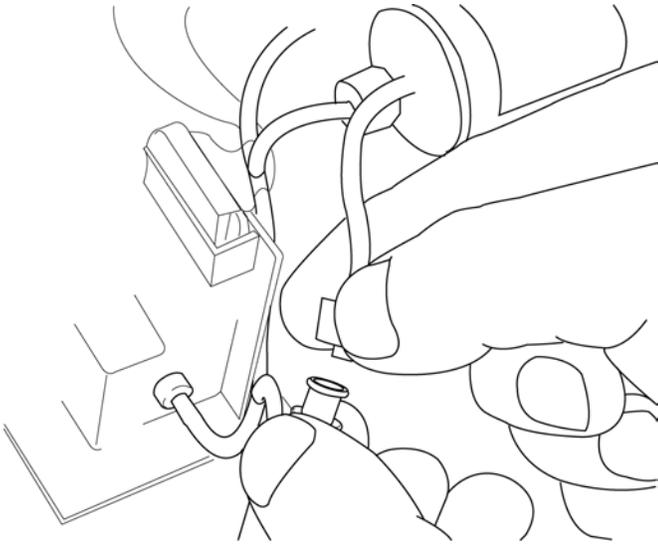

Figure 11-5 – Disconnecting the In-line Luer Fitting
6. Disconnect the in-line luer fitting (Figure 11-5).